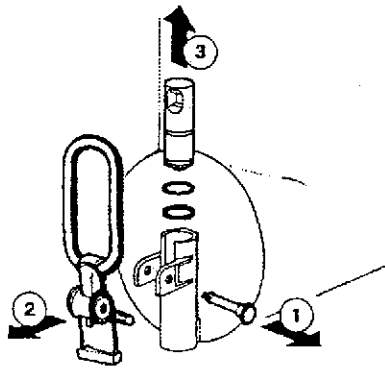

figure 12
- 5.3.1/VI Dismantle the faucet assembly (see figure 12)